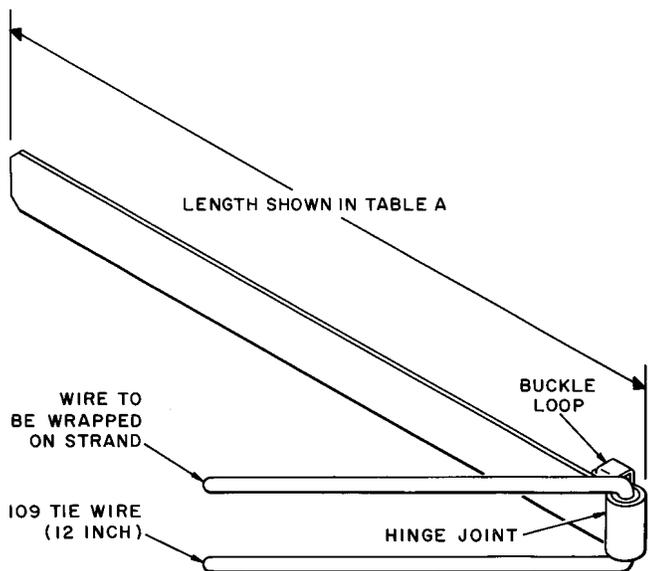

Fig. 2—B Lashed Cable Support With Wire Hanger
2.02 The equivalent of the aerial cable support can be made, if required, by centering a 12-inch, 109 steel tie wire through the aperture of the B lashed cable support and then bending the wire as shown in Fig. 2.